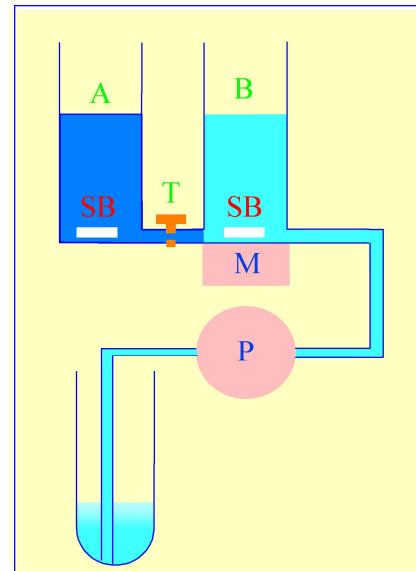

Figure 4: Two-chamber gradient maker (for details see text)
The traditional way of constructing a continuous gradient is to use a standard two-chamber gradient maker (Figure 4). It consists of two identical chambers connected close to their bases by a tapped channel (T). One of the chambers (the mixing chamber – B in Figure 4)) has an outlet directly opposite the inlet from the tapped channel.
- Set up the device as shown in Figure 4 with the mixing chamber (B) resting on a magnetic stirrer (M) and the outlet tube leading via a peristaltic pump (P) to the bottom of the centrifuge tube.
- Place the chosen high-density solution in the non-mixing chamber (A) and then momentarily open the tap (T) to allow dense liquid to fill the connecting tube.
- Pour an equal volume of the low-density solution in the mixing chamber (B).
- Place two identical stirring bars (SB) in the two chambers (this ensures that the height of the two solutions is the same).
- In rapid sequence, switch on the pump (P) and the magnetic stirrer (M) and then open the connecting tap (T). As the levels in the two chambers fall synchronously, reduce the speed of the stirrer to avoid generating air bubbles that may enter the gradient and disturb it.